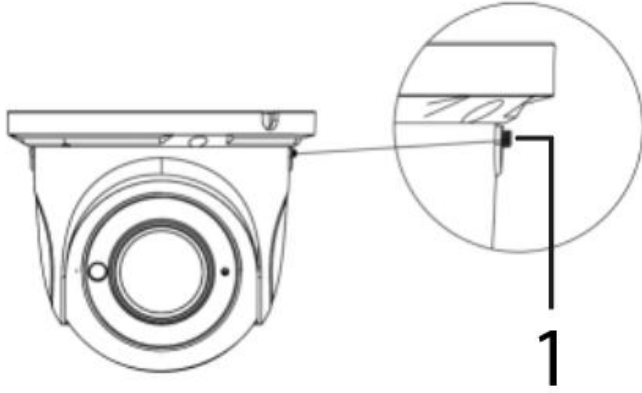

Figure 4
- i. Unlock the screw (1) (Figure 4) and pan the camera field of view up to 360 degrees.